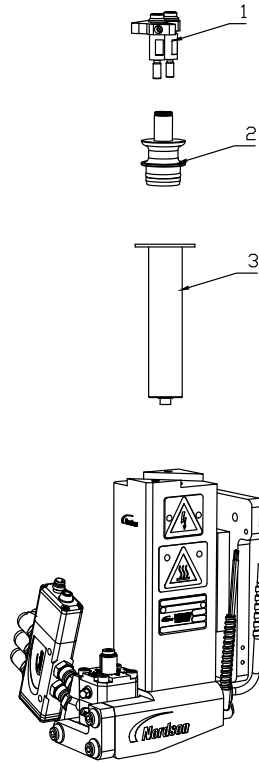

Figure 13 Loading a Syringe – PURJet 30XT
1. Load an adhesive syringe in the applicator as follows (see Figure 13):
- a. Open the adhesive syringe latch and remove the air cap (1).